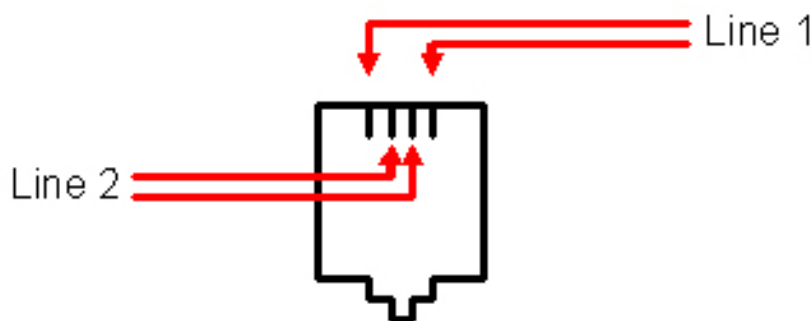

Figure 126: RJ-14 Wiring
**RJ-14** – A telephone jack used to make connections with dry pair. By definition, the RJ-14 has two pair (i.e., four wires). It is often confused with an RJ-11 (two wires). Some phone technicians will call these RJ-11 4 wire jacks. Please note the unique wiring of the RJ-14 for the X-System application in Figure 126.